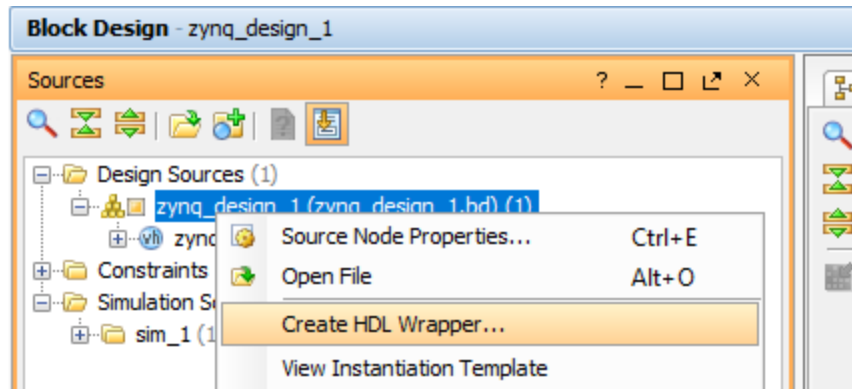

Figure 20: Creating the HDL wrapper.
3. In the Sources window, select the top-level subsystem source, and select **Create HDL Wrapper** to create an example top-level HDL file (Figure 20)). Select **Let Vivado manage wrapper and auto-update** and click **OK**.